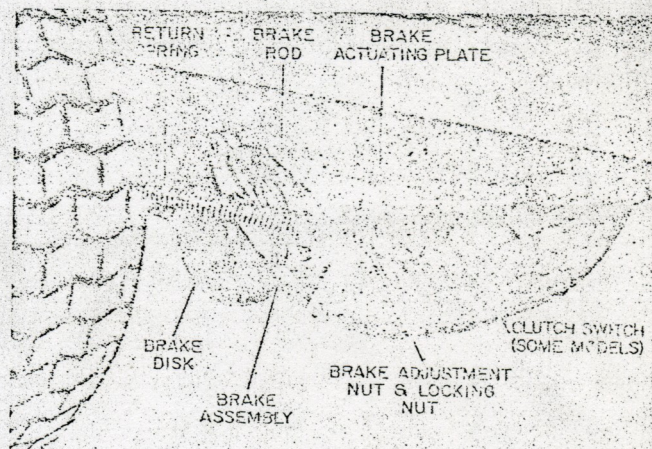

Figure 3
3. Loosen the locking nut (see Fig. 3) located behind the brake adjustment nut.